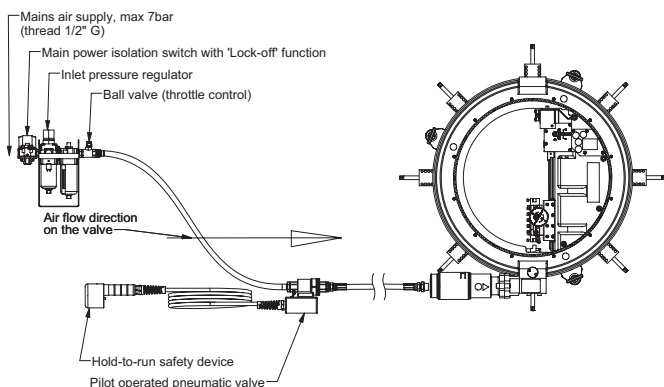

Figure 13: Pneumatic connection system diagram
1. Refer to Figure 13 for machine lifting points.